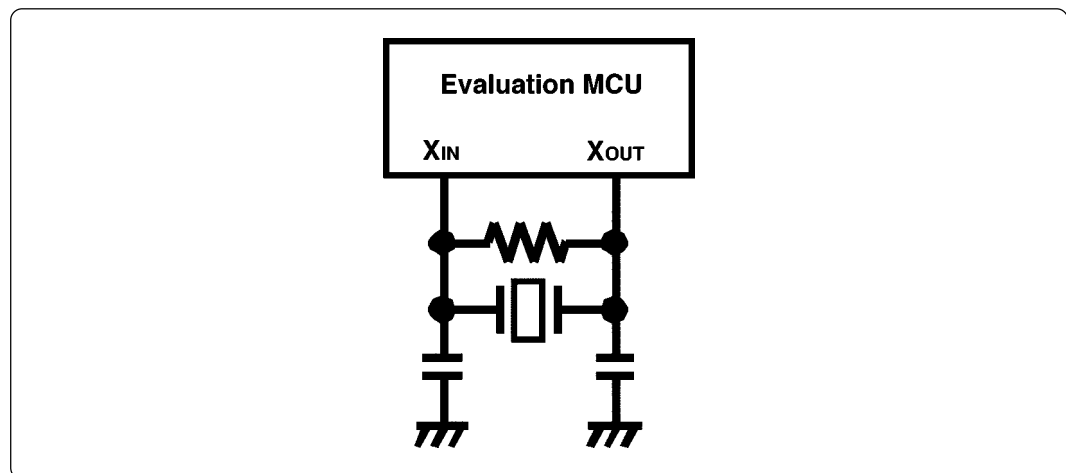

Figure 3.5 Circuit in which oscillation does not occur (same for X_{CIN} - X_{COUT})
- Make note of the fact that in the oscillator circuit shown in Figure 3.5 where a resonator is connected between the X_{IN} and X_{OUT} pins, oscillation does not occur because a flexible cable, buffer IC and other devices are used between the evaluation MCU and the target system. It is same for sub-clock oscillator circuits (X_{CIN} and X_{COUT}).
(2) Changing the Internal Oscillator Circuit of the Emulation Pod